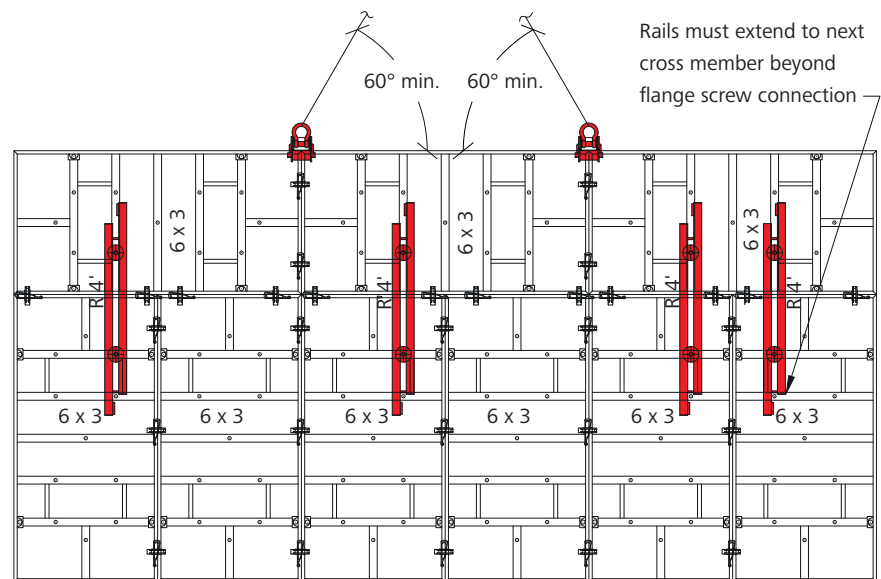

Fig. 46.2 Gang form with horizontal top panels
3. Gangs with horizontal panels require rails that extend to the next cross member beyond the flange screw connection of the vertical panel (Fig. 46.2).